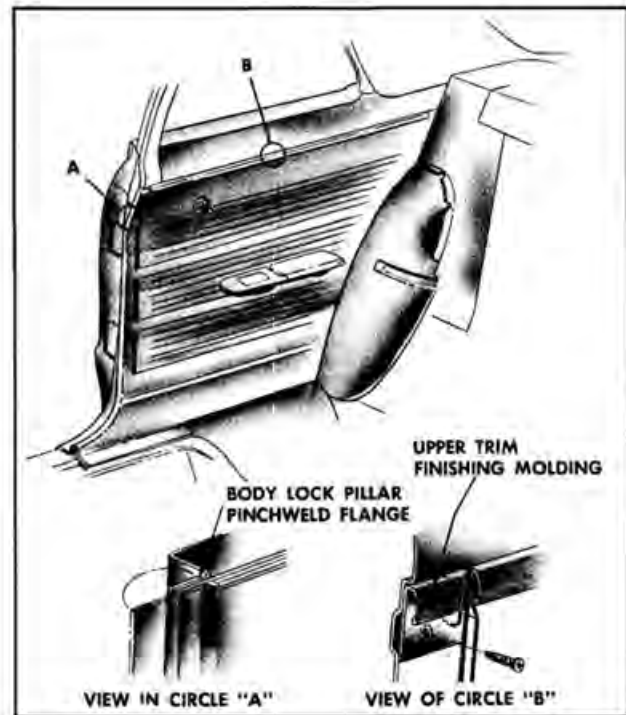

Fig. 16-358 Rear Quarter Trim Assembly
4. Beginning at rear, carefully pull upper edge of trim assembly downward to disengage it from upper finishing molding. (View "B", Fig. 16-358)
6. To install, reverse removal procedure. Prior to installation of pinchweld finishing strip, cement forward overlapping edge of trim assembly to pinchweld flange outboard surface. (Fig. 16-358)